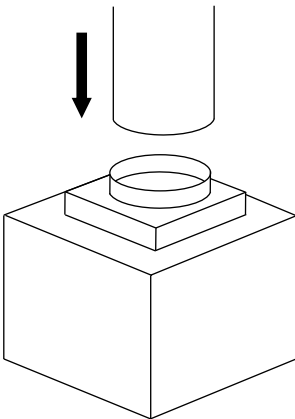

Fig 13
3. Install the ducting work up to the air inlet of the motor (**Fig 13**).